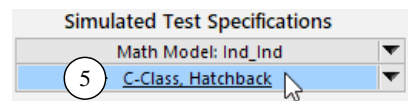
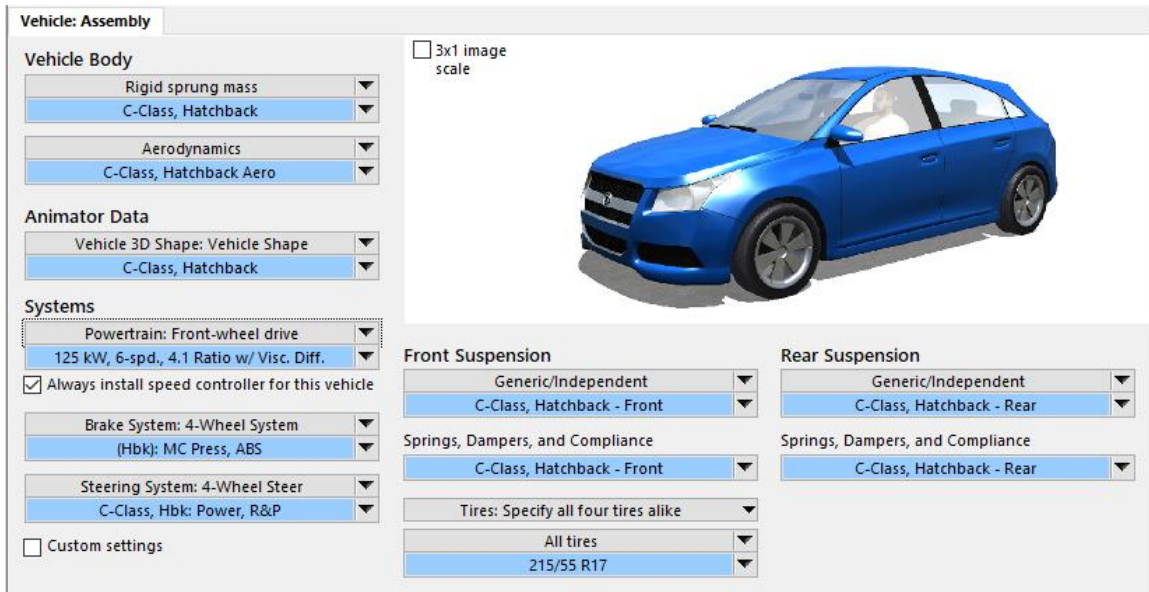

Figure 6. Blue link to another dataset.
Figure 7. A Vehicle: Assembly dataset used in the example simulation setup.
The GUI makes extensive use of blue configurable hyperlinks, similar in function to hyperlinks seen with Web browsers (Figure 6). In the same manner as a web link, hovering the mouse cursor over a blue link (5) will underline the text. Here, clicking on the blue link from the **Run Control** screen will show the linked **Vehicle: Assembly** dataset (Figure 7).